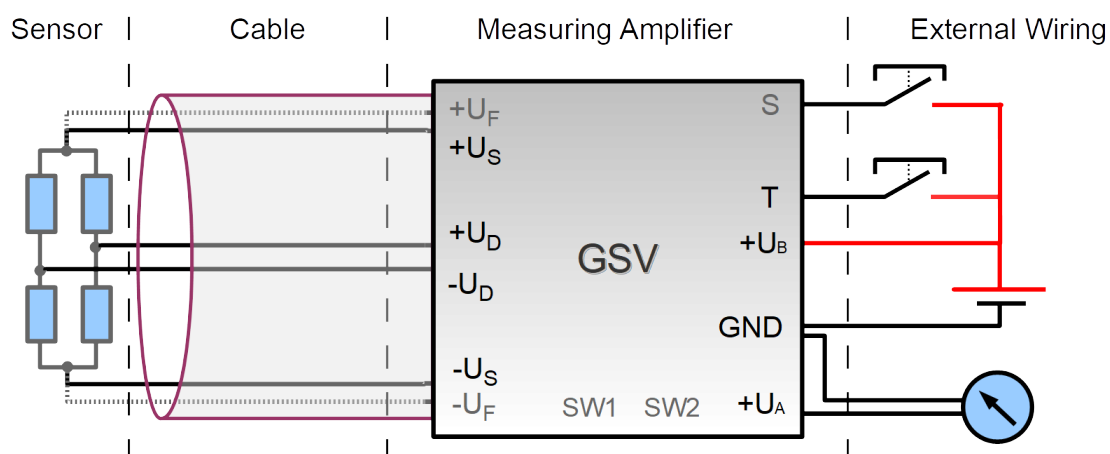

Figure 1: Connection of the sensor to the measuring amplifier
- other possible lines, such as an additional connection for self-testing or shunt calibration, are not covered in this document. To put the sensor into operation, the connections of the sensor must be connected to the connections of the same name on the measuring amplifier. Figure 1 shows the connection plan. Table 1 shows the usual names for the connections.